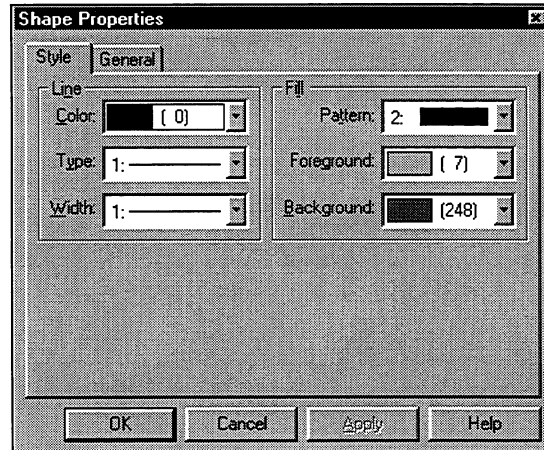

Figure 4-9. Shape Properties Form
16. To change symbol properties, double-click on the symbol you want to change. This accesses the Shape Properties form, as shown in Figure 4-9.